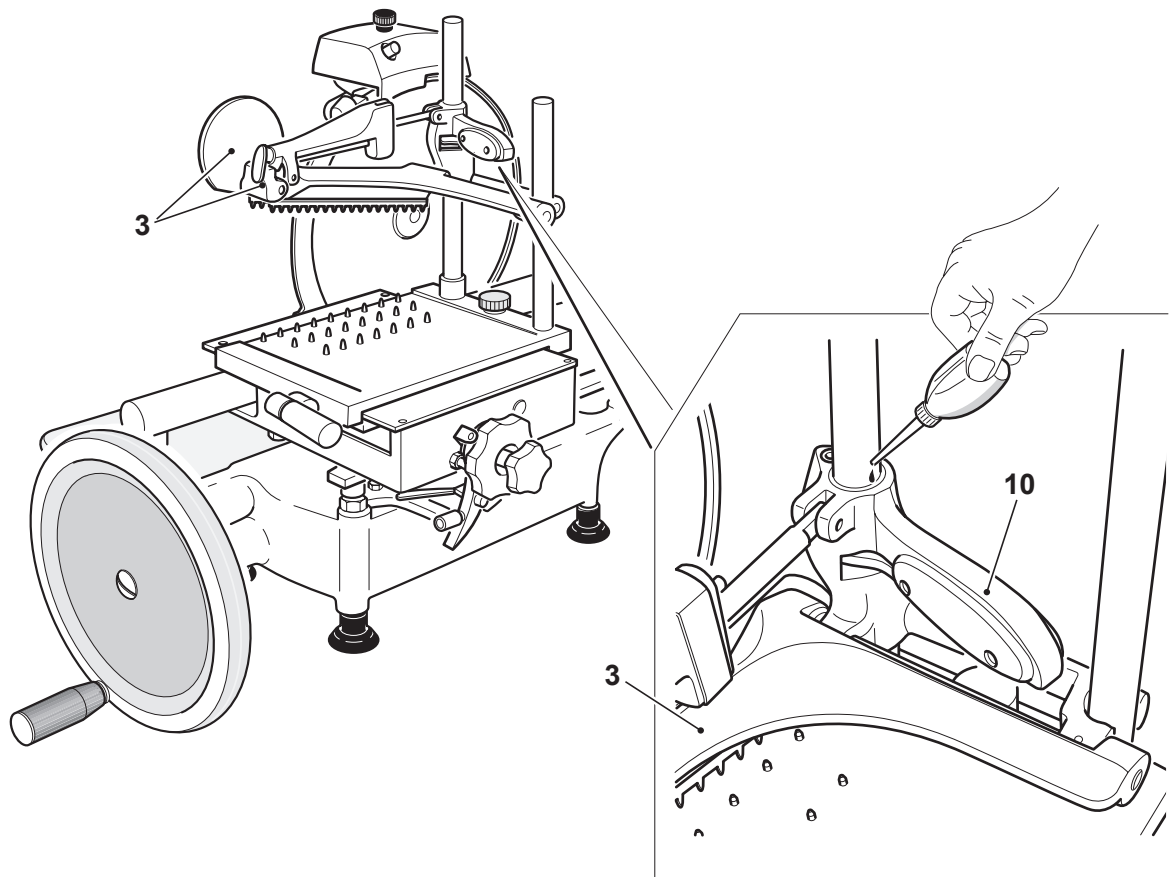

Figure 23-1
8. Apply 2 to 3 drops of lubricant to the pusher (10) of the pusher's (3) vertically sliding lever (Figure 23-1).
9. Press the pusher level (10) to slide the pusher (3) up and down 3 to 4 times.